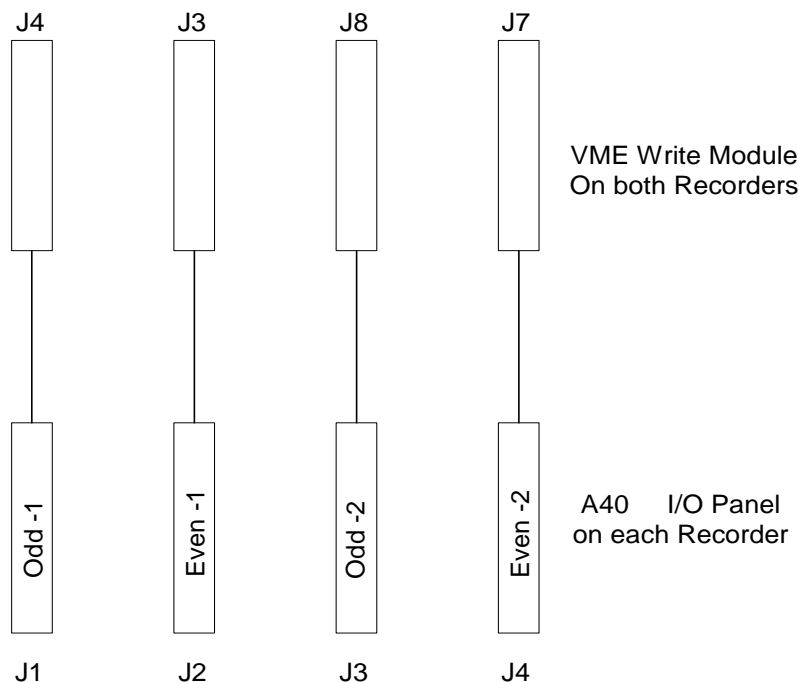

Figure 3. Recorder Cable Locations
11. Install the provided firmware EPROMS (2) V3.08 on the MVME 117-4 board. Remove the EPROMS from Sockets U39 and U48 and install 9CCE into U37 and 9005 into U48.
12. Install cables from the Recorder I/O panel Odd-2 and Even-2 to the VME Write Module. See Figure 3. Verify that the connectors are placed over both rows of pins.